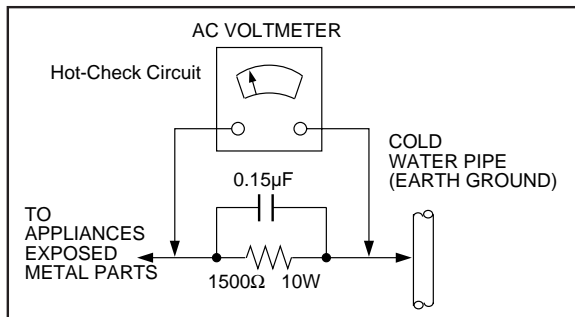

Figure1
LEAKAGE CURRENT HOT CHECK (See Figure 1)
2. Connect a $1.5k\Omega$, 10W resistor, in parallel with a $0.15\mu\text{F}$ F capacitor, between each exposed metallic part on the set and a good earth ground such as a water pipe, as shown in Figure1.